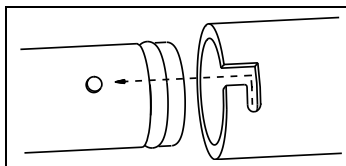

Fig. 12
- Press distal hub of catheter contamination shield over assembly cap. Twist to lock (refer to Fig. 12).